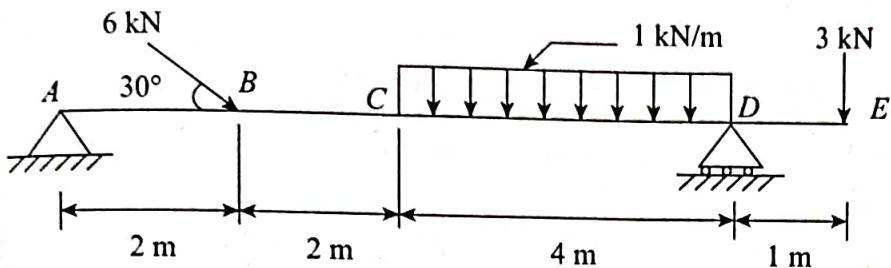

Figure 6.19
6.5 Draw the SF and BM diagram for beam shown in Fig. 6.19. Locate the point of contraflexure.